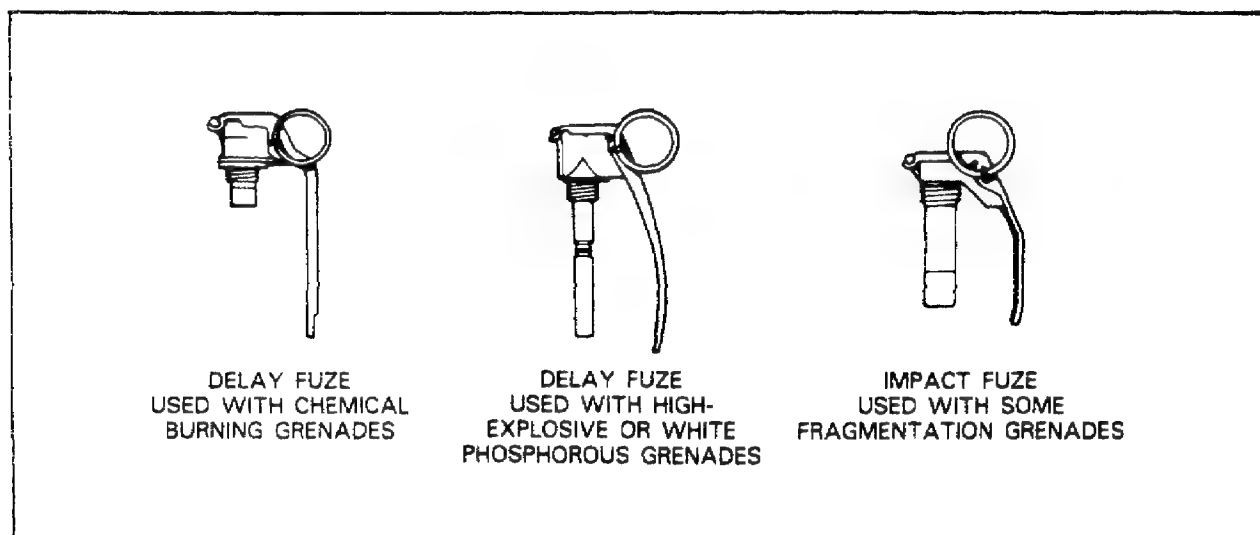

Figure 61. Basic Types of Grenade Fuzes.
**Delay Grenade Fuze.** The delay grenade fuze contains a delay element made of a slow-burning material. Delay fuzes are of two types. The delay fuze used with chemical burning grenades has a small igniter to ignite the chemical compound in the grenade. The delay fuze used in high-explosive fragmentation or white phosphorous grenades has a small high-explosive detonator that extends deep into the filler of the grenade. See Figure 61.
**Impact Grenade Fuze.** The impact grenade fuze (see Figure 61) detonates the grenade upon impact. This fuze also contains a delay element. This element causes the grenade to detonate three to seven seconds after the safety lever is released.